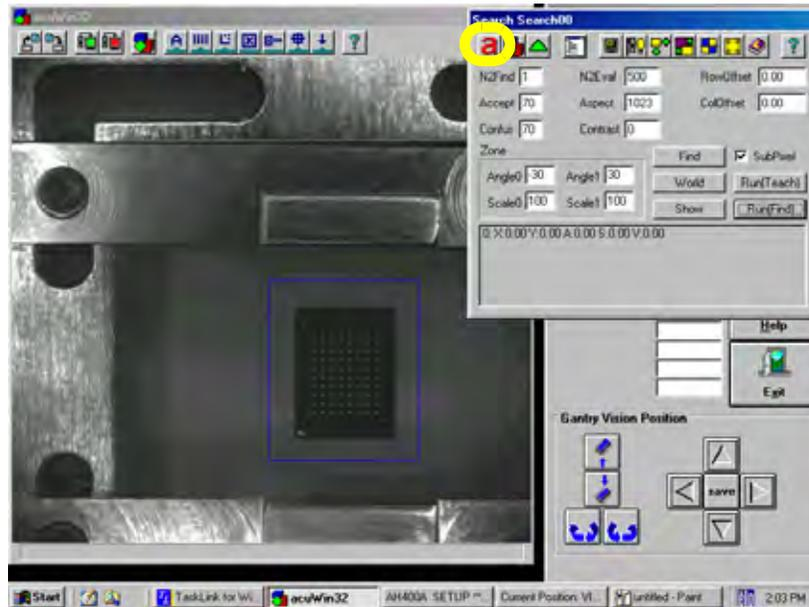

Figure 3-38—Click **a** to hide Search Search dialog
- 7e) On the Search Search dialog tool bar, click **a** to hide the Search Search dialog. See Figure 3-38.